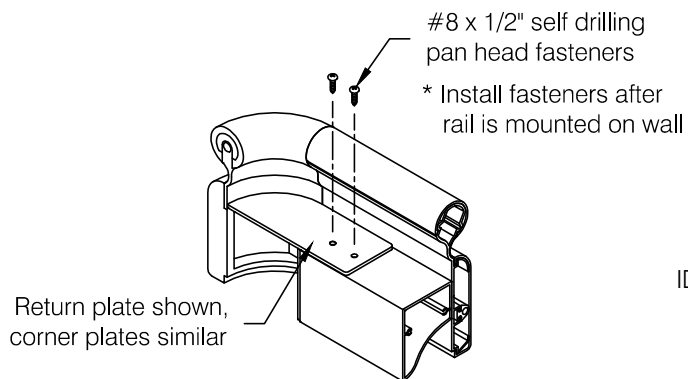

fig 8
- Step 10:** Place a return plate at each wall return. Secure return plates and corner plates to continuous bracket using the #8 x 1/2" Phillips pan head self drilling screws, see **fig 8**. An optional pilot hole may be drilled using a #29 bit.